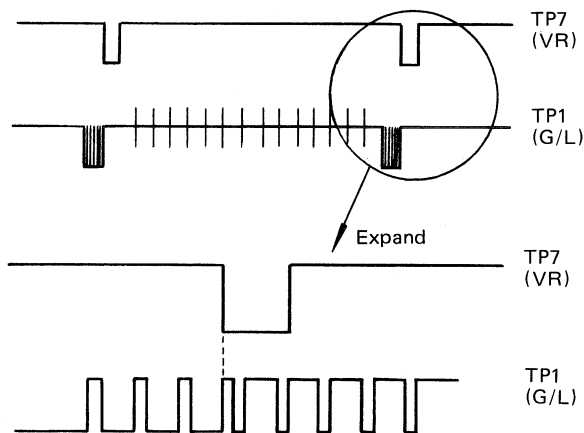

Fig. 4-2-3
- Adjust V RESET PULSE PHASE VR3 so that the delay timing of V reset trigger matches that of last point of V sync signal. (Fig. 4-2-3)